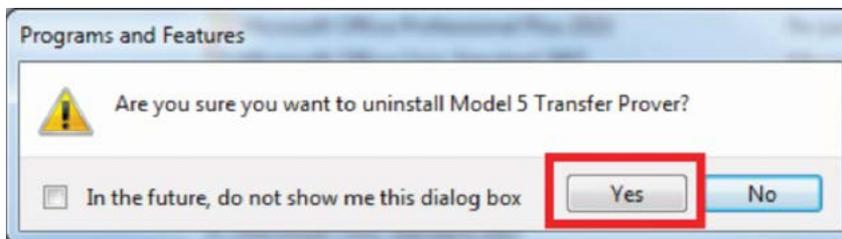

Figure 25: Warning Window
4. The computer may issue a warning regarding uninstalling the software. Refer to **Figure 25**. To continue with the uninstallation, select "Yes".